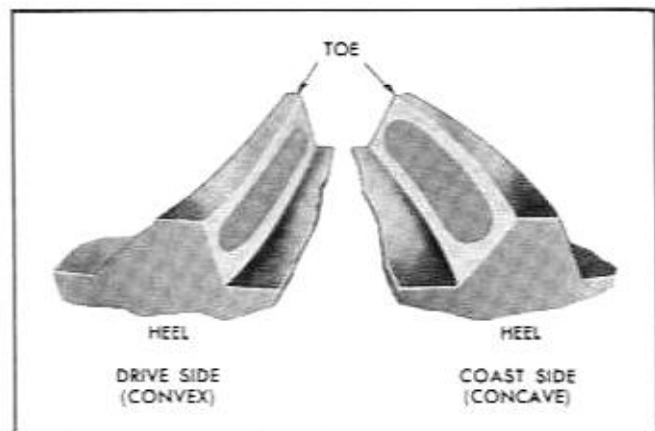

Fig. 4-17 Desired Tooth Contact Pattern
The desired tooth contact pattern (Fig. 4-17) is one which starts near toe end of tooth and extends along toward, but not to heel of tooth. The pattern on coast may be, and usually is nearer top of tooth. This pattern has a large contacting area, centered between top and bottom of tooth, and should result in minimum noise during operation. (All gear trains produce a certain amount of noise.)
8. Observe pattern on ring rear teeth and compare with Figs. 4-17, -19, -20, -21, and -23.
NOTE: In many cases the tooth contact pattern may not look exactly like those illustrated in Figs. 4-17, -19, -20, -21, and -23. In such case, try adjusting backlash to several different values, from minimum to maximum, testing tooth contact after each adjustment. By this means a pat-